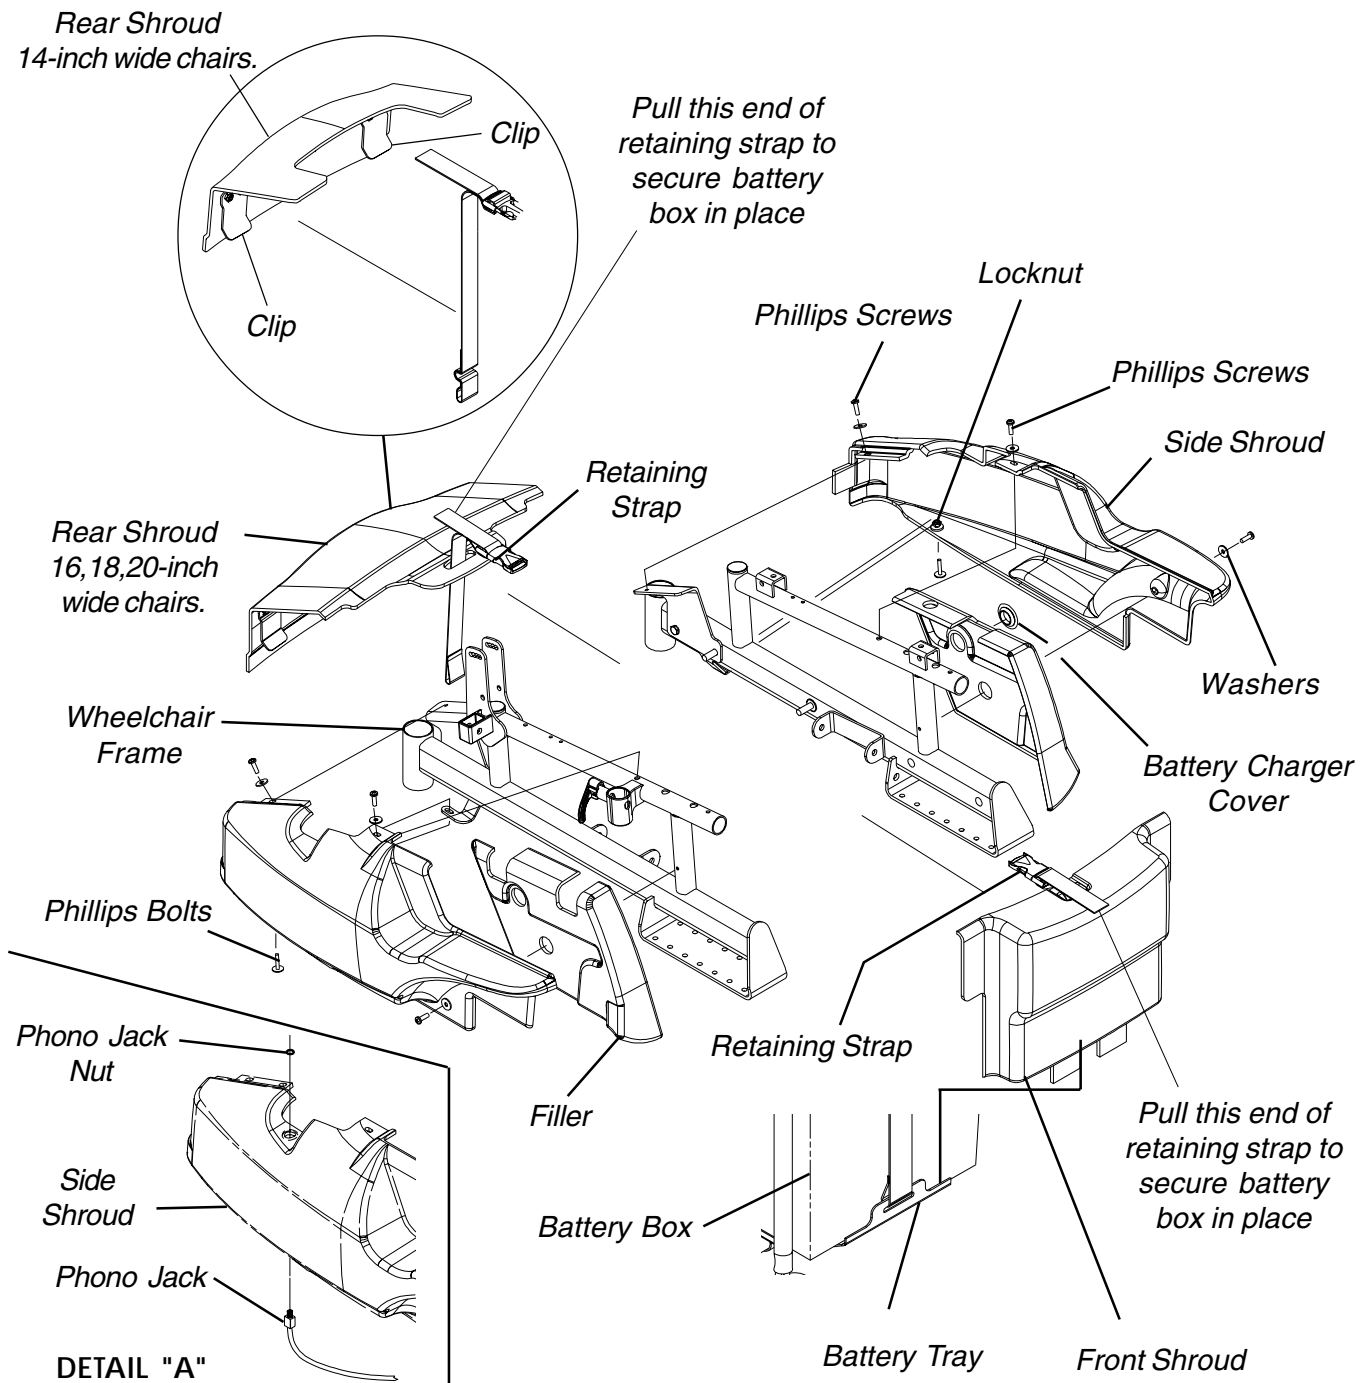

FIGURE 2 - REMOVING/INSTALLING SHROUDS - FWD WHEELCHAIRS
1. Perform one (1) of the following:
- Feed the retaining strap through the rear shroud as shown in FIGURE 2.
- Press down on the rear shroud until the two (2) clips secure the rear shroud to the two (2) side shrouds.
3. Perform one (1) of the following:
5. Remove the phillips screws, bolts, washers and locknuts that secure side shroud and filler to the wheelchair frame. Refer to FIGURE 2 for phillips screw and washer locations.
3. Install the phillips screws, bolts, washers and locknuts that secure the side shroud and filler to the wheelchair frame and tighten securely. **DO NOT OVERTIGHTEN.** Refer to FIGURE 2 for phillips screw, bolt, washer and locknut locations.
6. Perform one (1) of the following: